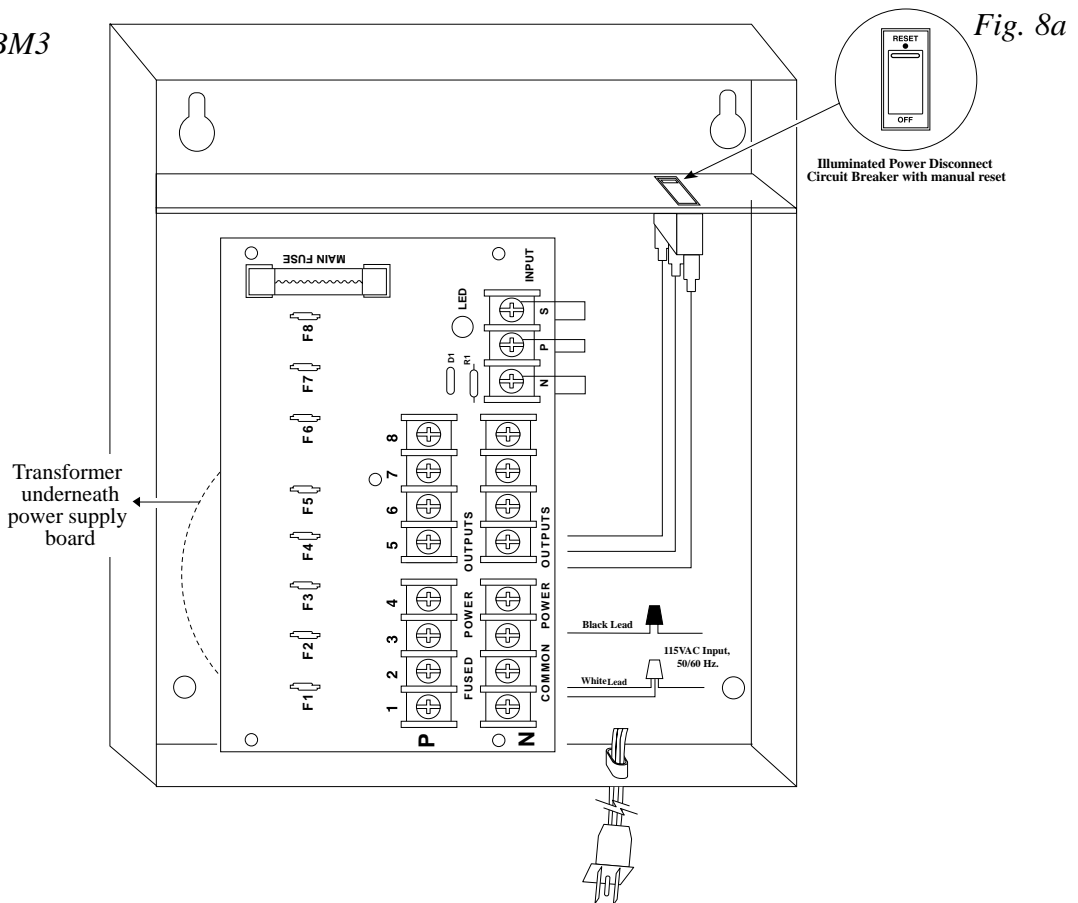

Fig. 9
8. Connect devices to terminals marked [1P - 1N through 4P - 4N] on PD4/PD4CB board (*Figs. 9, 10, pgs. 9, 10*) or terminals marked [1P - 1N through 8P - 8N] on PD8/PD8CB board (*Figs. 1-8, pgs. 5-8*), carefully observing polarity.